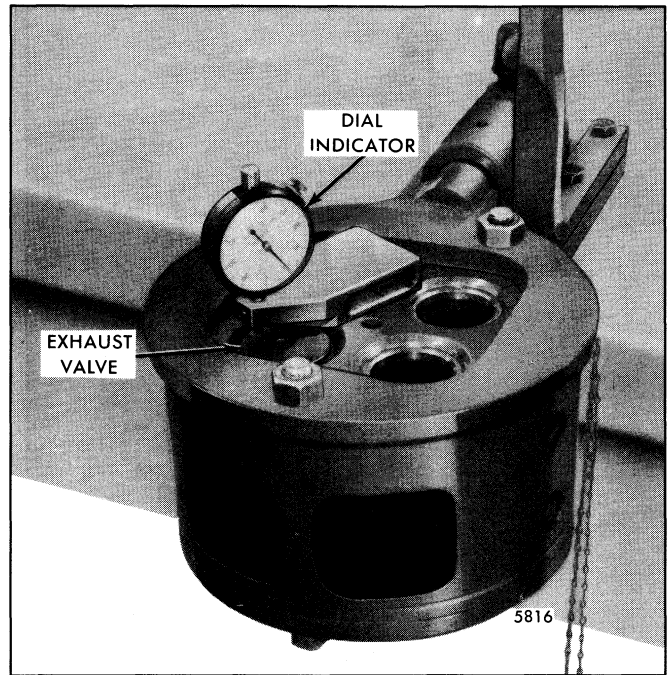

Fig. 16 - Relationship Between Exhaust Valve and Cylinder Head
4. Grinding will reduce the thickness of the valve seat insert and cause the valve to recede into the cylinder head. Check the depth of the valve with depth gage J 22273-01 (Fig. 16). If, after several grinding operations, the valve recedes more than .032" below the surface of the cylinder head, replace the valve seat insert.